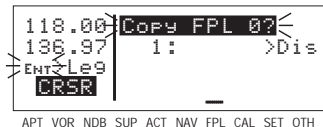

Figure 4-25
- Rotate the right outer knob counterclockwise to position the cursor over **Copy FPL 0?** (figure 4-25).